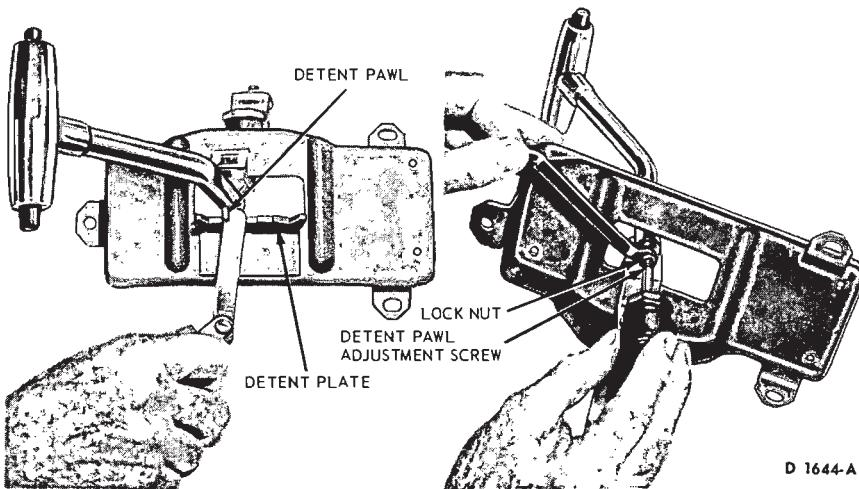

FIG. 12—Typical Selector Lever Detent Pawl Adjustment
13. Position the selector lever as shown in Figure 12. With a feeler gauge, check the clearance between the detent pawl and plate. The clearance should be 0.005 to 0.010 inch. If necessary adjust the height of the detent pawl as shown in Figure 12.
11. Position the selector lever as shown in Figure 12. With a feeler gauge check the clearance between the detent pawl and plate. The clearance should be 0.005 to 0.010 inch. If necessary, adjust the height of the detent pawl as shown in Figure 12.